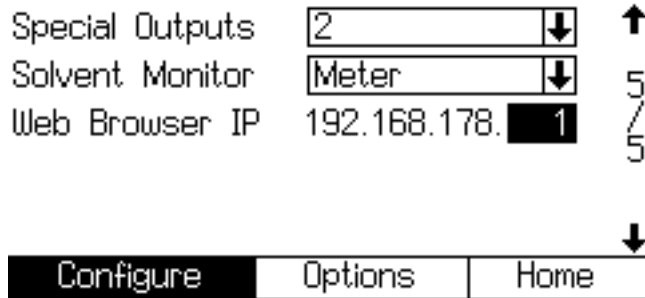

FIG. 5: System Configuration Screen 5
- On the EasyKey, go to System Configuration Screen 5 and write down the IP number assigned to that EasyKey (1-99). See FIG. 5.